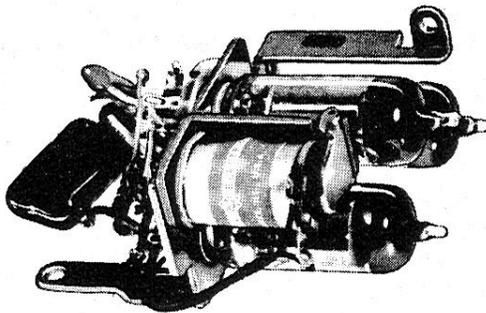

Figure 13. Common Audible Signal Unit.
- (a) A common audible signal unit (Figure 13) to serve all lines may be installed in the Type 187.
2.31 Where additional signaling must be provided at the station for each line accessed, a common audible signal unit (Figure 13) may be mounted in the space provided for the ringer.